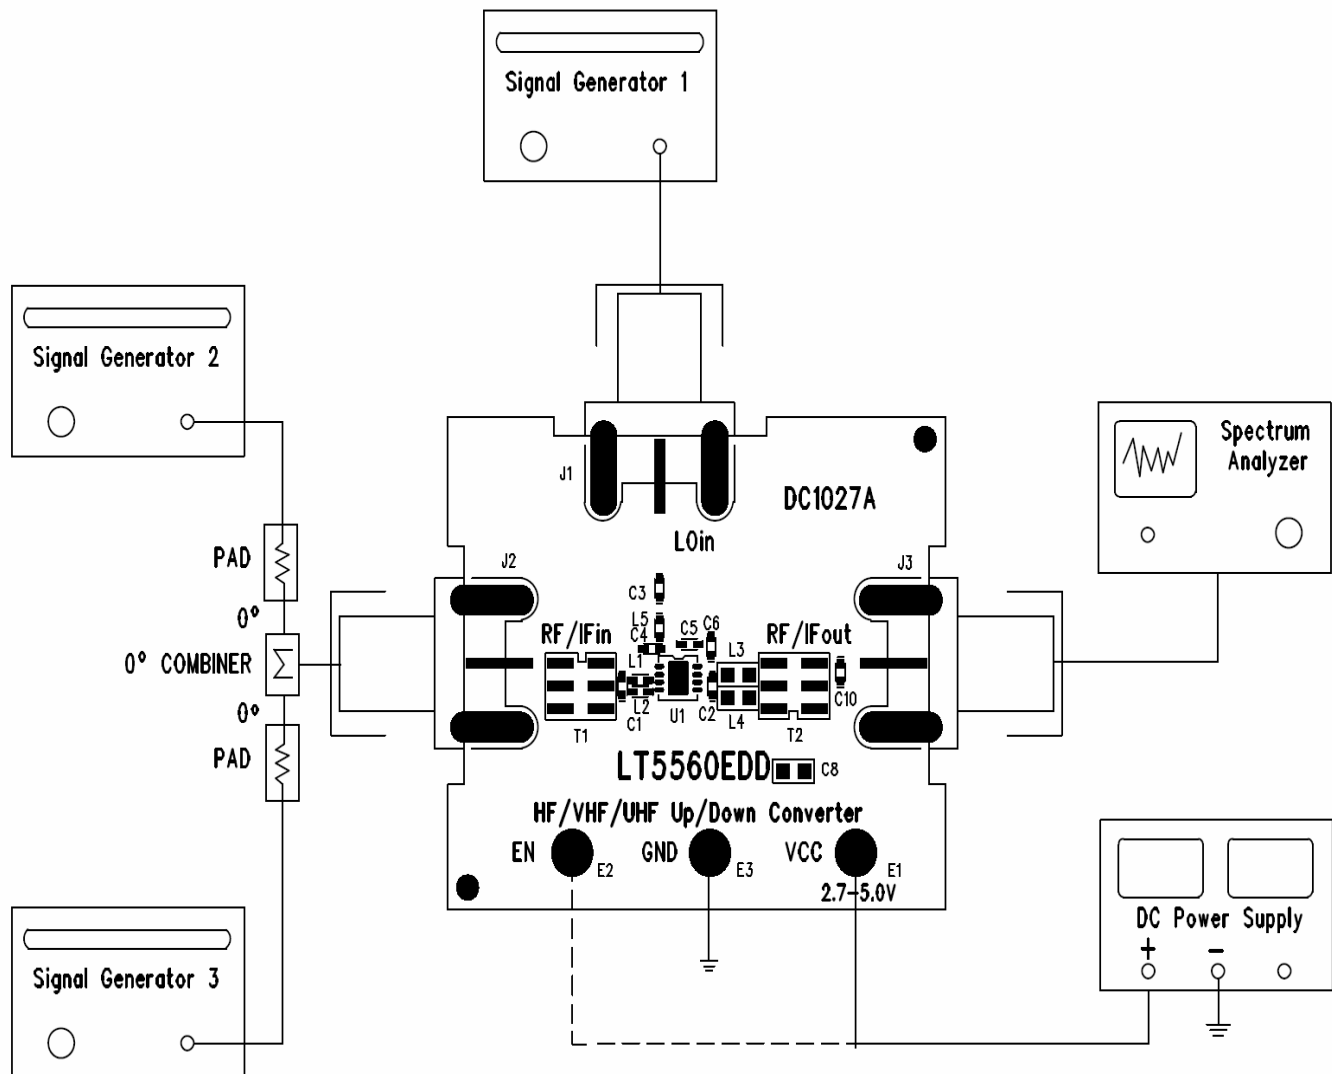

Figure 1. Proper Measurement Equipment Setup
Demonstration circuit 1027A is easy to set up to evaluate the performance of the LT[®]5560. Refer to Figure 1 for proper measurement equipment setup and follow the procedure below:
1. Connect all test equipment as shown in Figure 1.